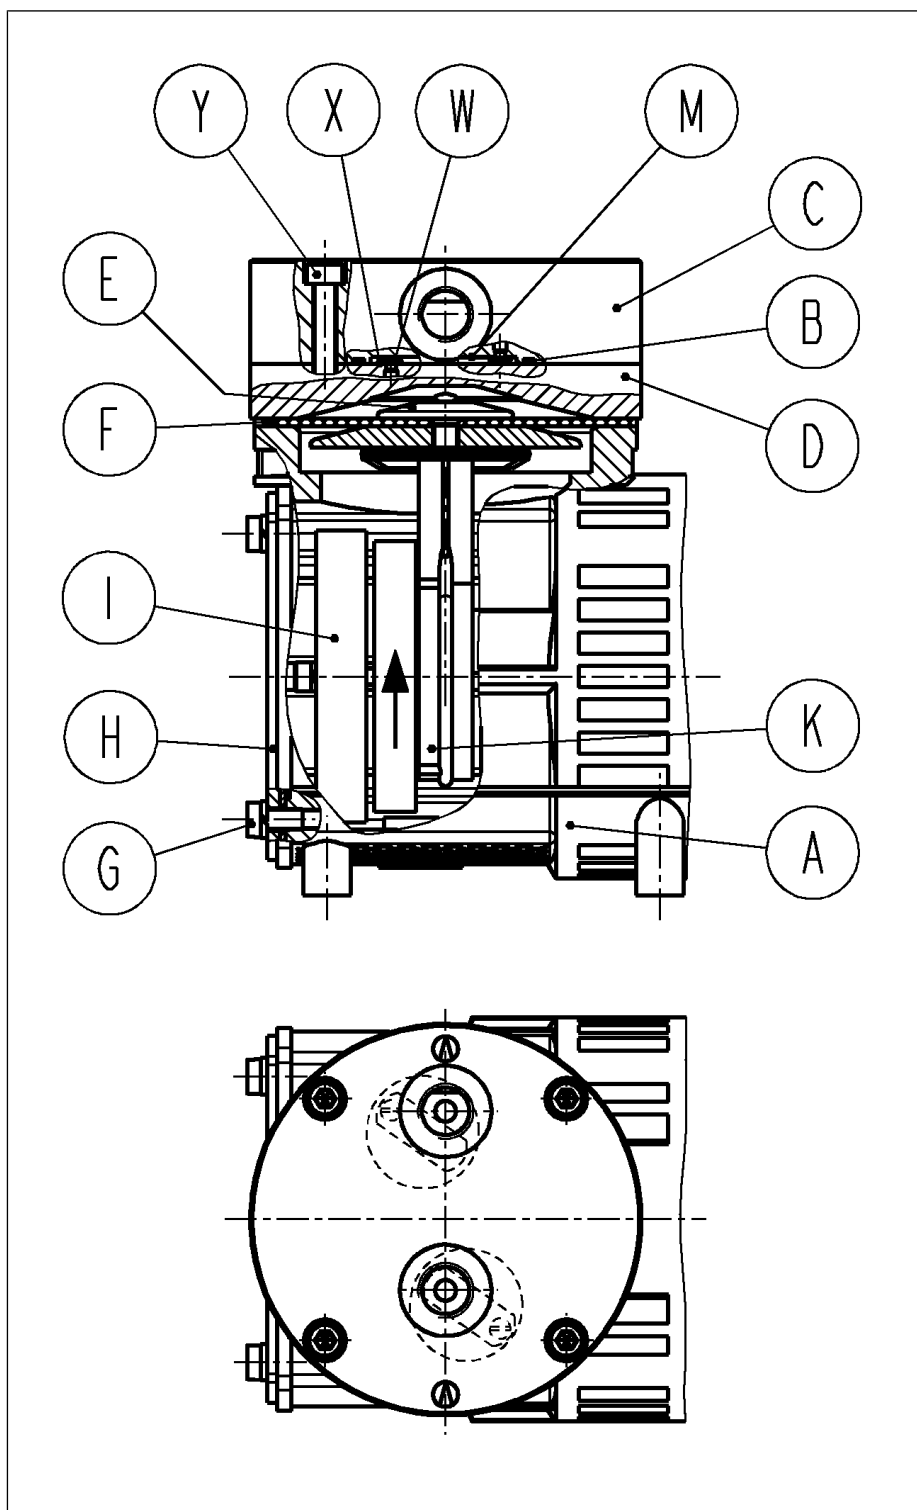

Fig.5 Pump parts for pump models with smooth heads and reed valves (stainless steel, symbolic)
**Acc. to Fig. 5
The following item numbers refer to Fig. 5.